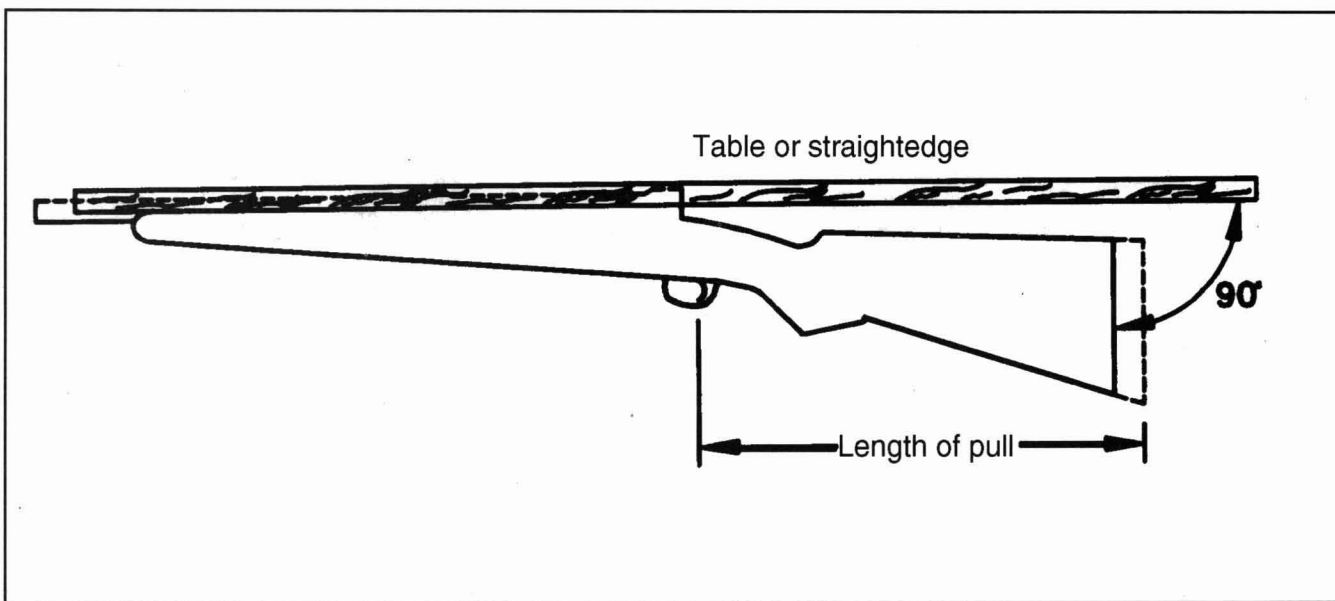

Figure 21-16: When cutting a rifle stock for the installation of a recoil pad, the cut should be made exactly 90° to the rifle bore.
- When the pad is to be installed on a rifle stock, the stock should be cut 90° to the barrel as shown in Figure 21-16.